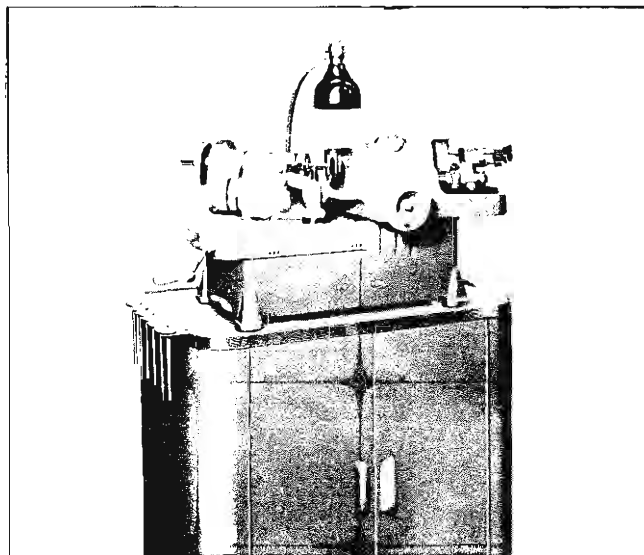

Fig. 18—Valve Refacing Machine
1. If necessary, dress the valve refacing machine grinding wheel to make sure it is smooth and true. Set chuck at 45° mark for grinding valves (fig. 18).